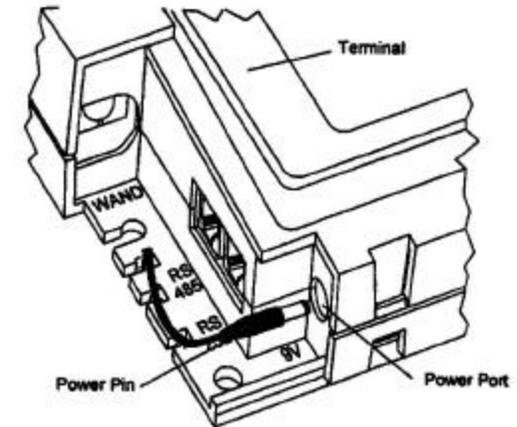

Figure 19: Power Supply Cord Installation
1. **Plug the power pin into the terminal's power port and power up the terminal. Refer to Figure 19 and 20.**
- (a) Route the power supply's cord to the terminal as shown in Figure 19.